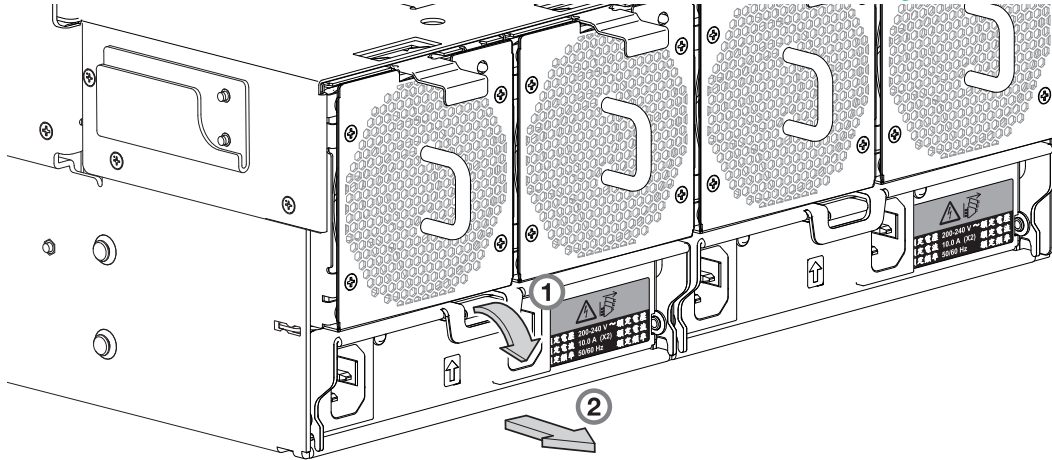
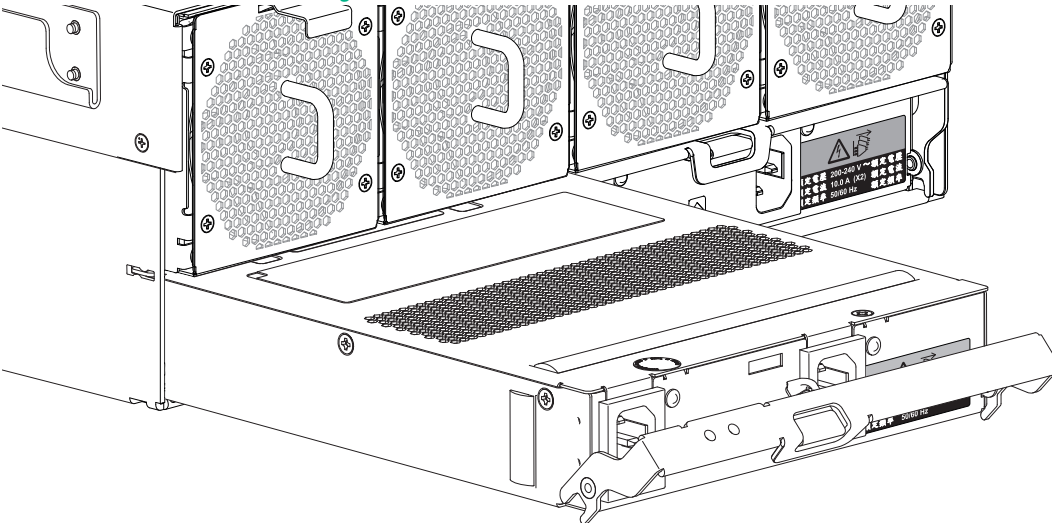

Figure 70 Removing a PSU (1 of 2)
Figure 71 Removing a PSU (2 of 2)
- Grasp the PSU handle latch between the thumb and forefinger and press the latch tab down to unlock the handle. Revolve the handle out and downward to lever the PSU out of the enclosure as shown in Figure 70.
- Grip the handle and withdraw the PSU, taking care to support the base of the module with both hands as you remove it from the enclosure as shown in Figure 71.
See Figure 70 \(page 92\) and Figure 71 \(page 92\) when performing this procedure, but ignore the directional arrows—since you will insert the module into the slot—rather than remove it.